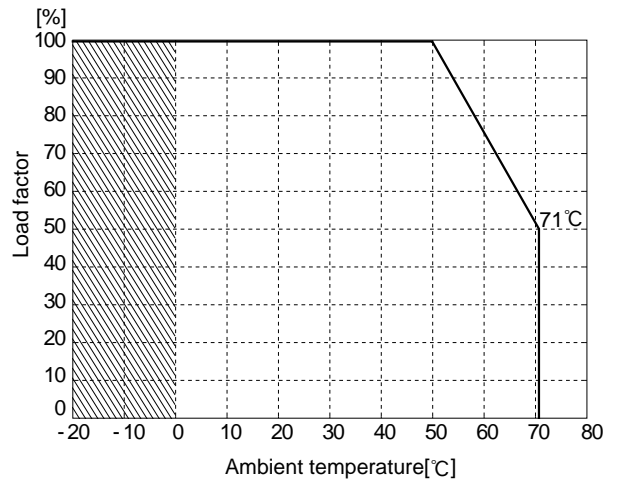

Fig.5.2 Derating curve depending on ambient temperature
■ Derating curve depending on ambient temperature is shown in Fig.5.2.